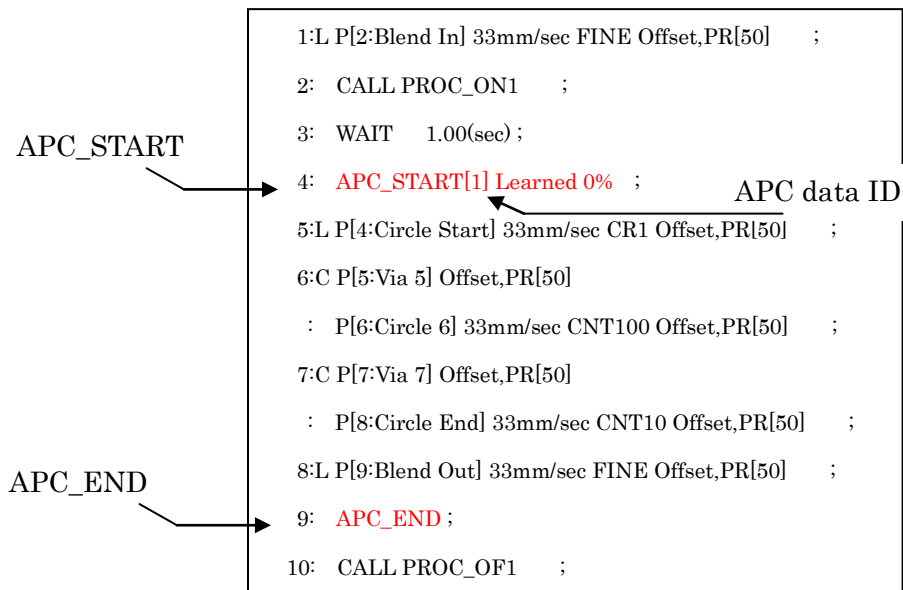

Fig. 7.4(a) An example TP program with Spot & APC instructions
- 2 Insert APC_START just before motion lines to be learned, as shown in Fig. 7.4(a).
- 4 Insert APC_END just after motion lines to be learned, as shown in Fig. 7.4(a).